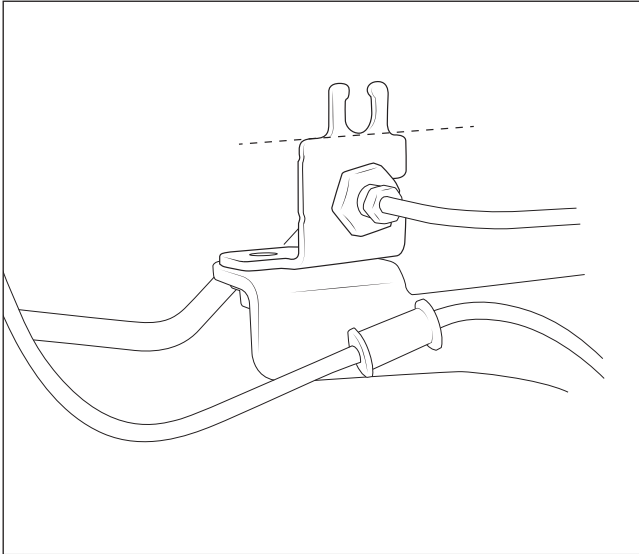

Figure 28
12. Trim the factory soft brake line bracket as shown (fig. 28).